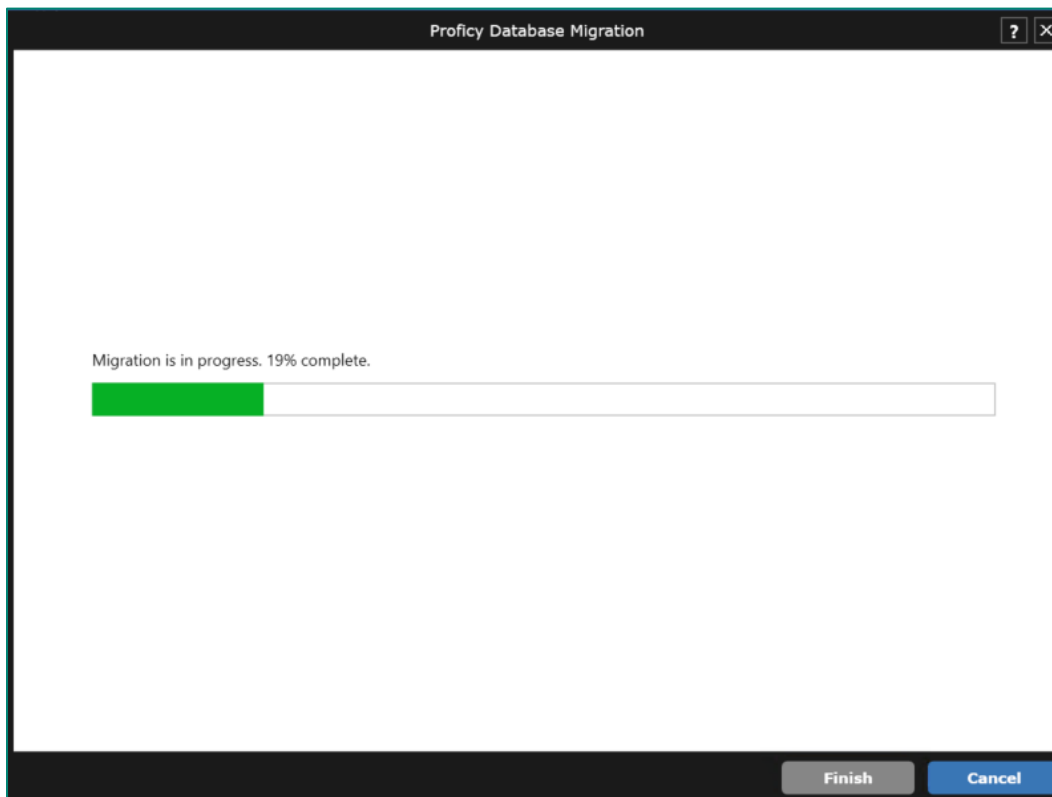

Figure 8: Migration Progress in % completion
- After clicking on Migrate button, it shows the progress in terms of % completion (Figure 8)